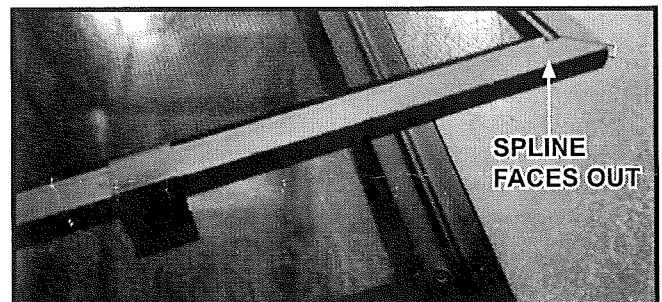
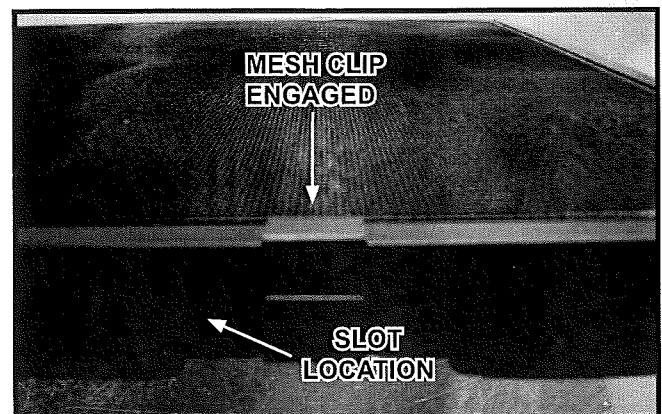

Figure 2. Location of Mesh Clips.
Figure 3. Mesh Clips Installed.
2. Locate the four slots in the glass frame assembly. These will correspond to four mesh clips on the mesh frame assembly. See Figure 2.
3. Snap the four mesh clips into the four corresponding slots in the glass frame assembly. See Figure 3. Ensure that the mesh frame assembly is installed tightly on glass so that the spline is projecting outward from the fireplace. See Figure 2.